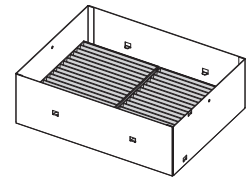

Fig. 3
- When the two air filter units are attached (Fig. 3), proceed to “Attaching the long life filter cover” (➡ page 226) next.